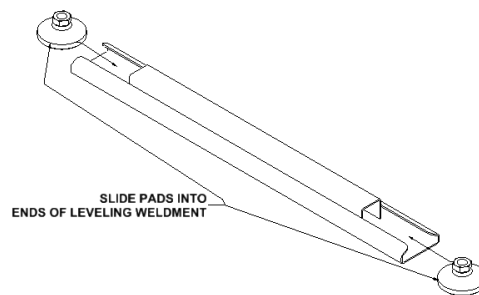

Figure 2
2. Slide the leveling pads into ends of leveling weldment bar as shown in figure 2.